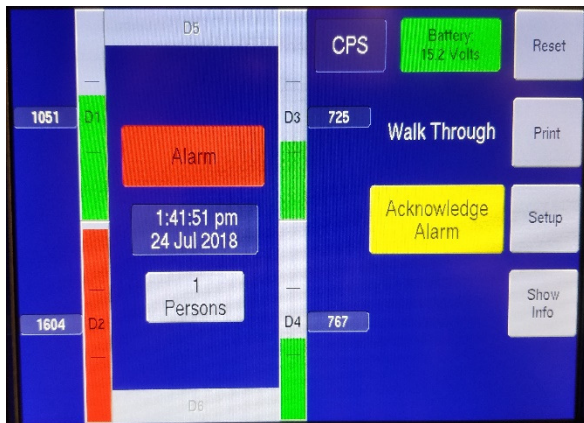
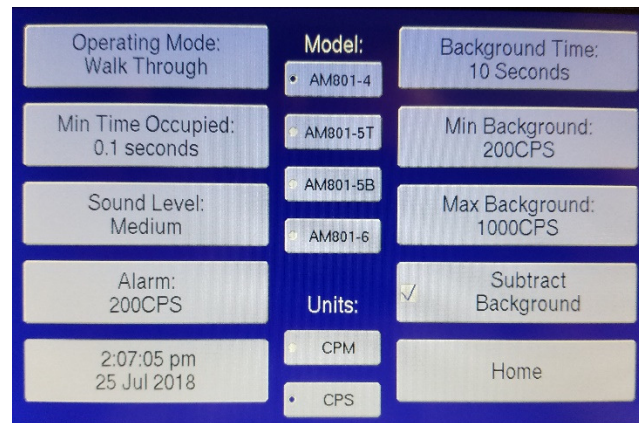

FIGURE 3
FIGURE 4
The operator can access the screen that displays selections for the following: Model of AM-801, Alarm Set Points, Operating Modes, and Operating Times touching the SETUP button will cause the Setup Screen to appear (FIGURE 4). FIGURE 3 shows the portal in alarm.
- 5.3.8 FIGURE 4 is the SETUP SCREEN. TO ADJUST FOR OPERATION ONLY, THE FOLLOWING MAY NEED TO BE ADJUSTED.